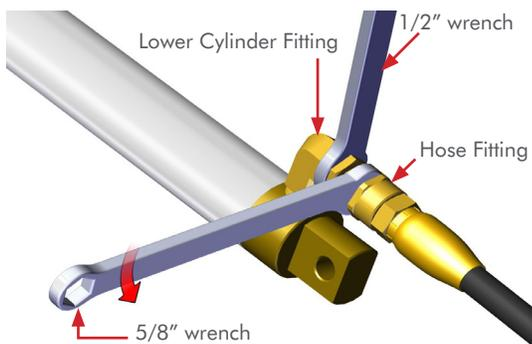

Figure 7
**STEP 5** Repeat **Steps 3-4** for the **DOWN Hose**. **FIG 7**